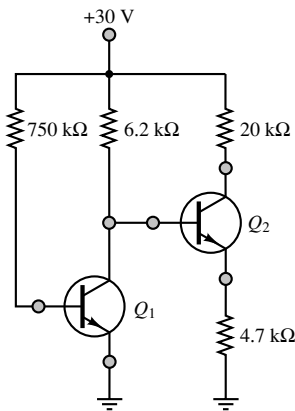

Figure P10.10
- 10.10** Given the circuit of Figure P10.10, assume both transistors are silicon-based with $\beta = 100$. Determine: